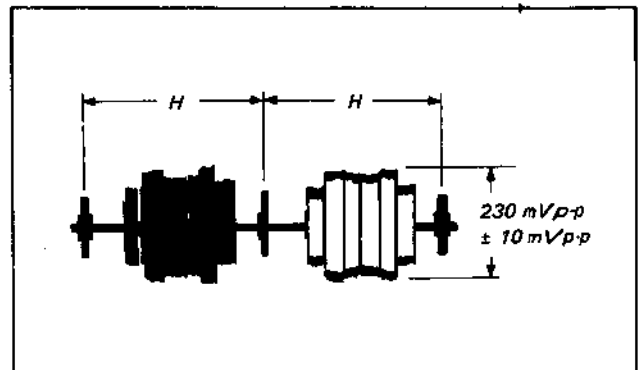

Fig. 5-32. Color recording current adjustment
- 2) Adjust RV13 until the amplitude is $230mV_{p-p} \pm 10mV_{p-p}$. (See Fig. 5-32.)